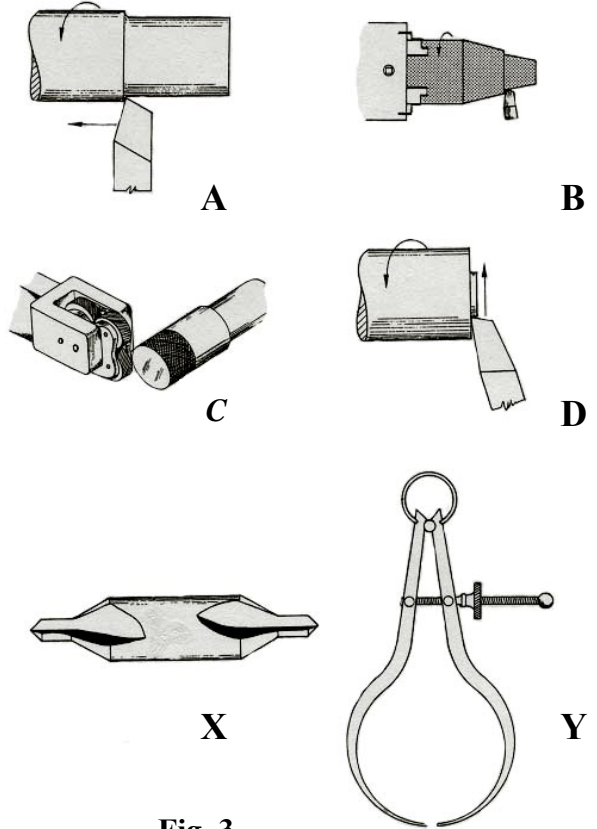

Fig. 3
Fig. 3 shows four lathe-turning operations A, B, C and D.
- (d) Fig. 3 shows two tools X and Y, used on the lathe.